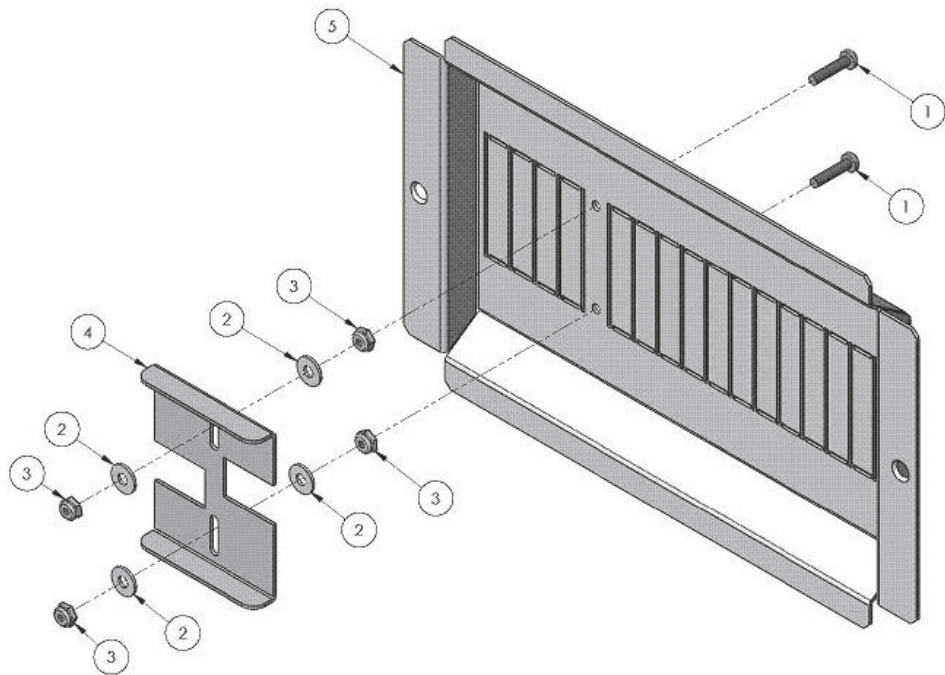

Figure 5: AC Breaker Bypass Slide Plate Installation
- Install the AC Breaker Bypass Slide Plate (see Figure 5).
- 2. Install AC Breaker Bypass Slide Plate and fasteners as shown in Figure 5.